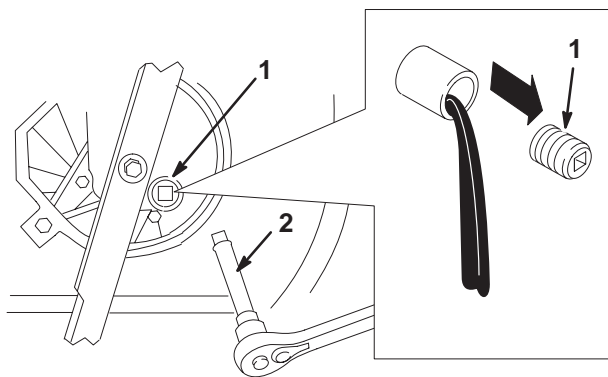

Figure 15
5. Remove the oil drain plug, return the lawn mower to its operating position, and allow the oil to drain into the drain pan (Fig. 15).